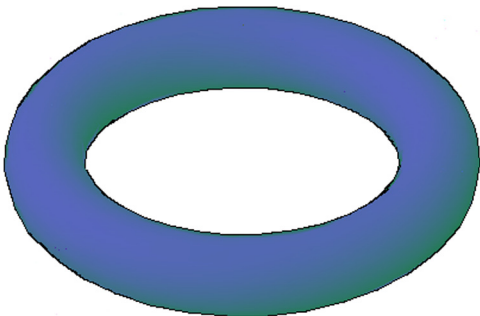

FIGURE 23.23
- Step 4.** Drag your mouse (or enter a value) and the torus shape is automatically extruded, as seen in Figure 23.23.